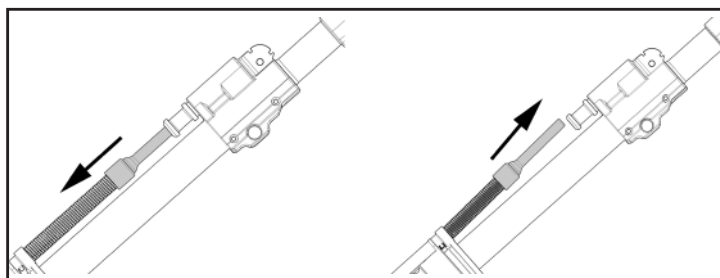

Fig. 45 – Removing Piston Rod
- c. Grasp the rear of the gas piston while pushing back on the piston rod. Disengage the piston rod from the piston and slide out the piston rod from the upper receiver (Fig. 45).